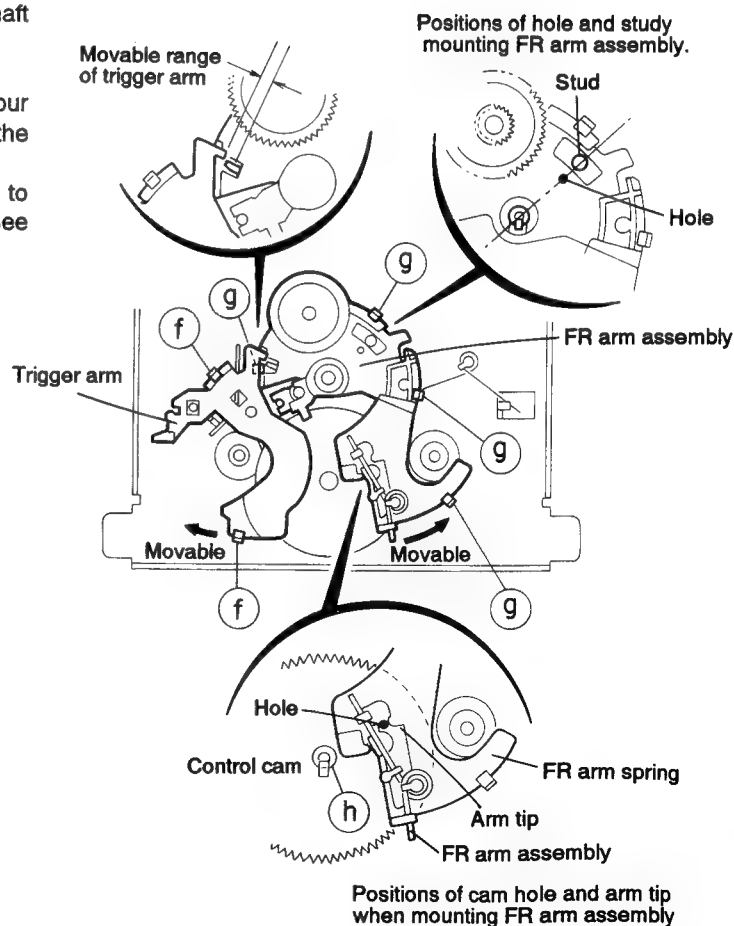

Fig. 5-46
3. While opening the two pawls ① fixing the trigger arm in the arrow direction, remove the arm from the clamp shaft (See Fig. 5-46).
5. Remove the FR arm spring, and while opening the four pawls ② fixing the FR arm toward outside, pull out the FR arm assembly (See Fig. 5-46).
6. While aligning the engagement ③ of the control cam to the center of bearing hole, pull out the control cam (See Fig. 5-46).
(See Figs. 5-46~5-51)
**Caution 1:** The positions of the hole and stud in Fig. 5-46 should be aligned so carefully for mounting the FR arm assembly (See Fig. 5-46).